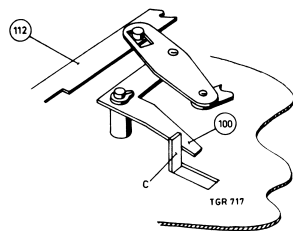

Fig. 9
Roller, item 114, should be in the centre between the "wind" and "rewind" buttons. If necessary, adjust by slightly bending the bracket, item 93. Depress the "play-back" button; the distance between tag C and bracket, item 100, should be about 0.5 mm, see Fig. 9. Adjust by slightly bending tag C.